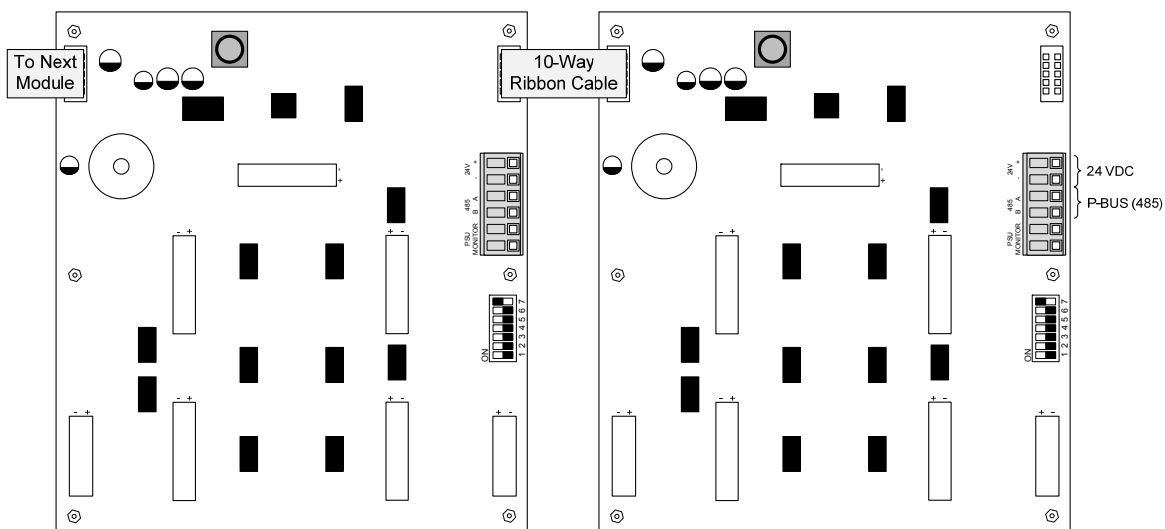

Figure 40 – Switch LED Module Daisy Chain Wiring
Note: When utilizing multiple switch LED module's on the same inner door row, 24 VDC power and the PBUS (485) wiring can be daisy chained from the first switch LED module to the next (see figure 40).